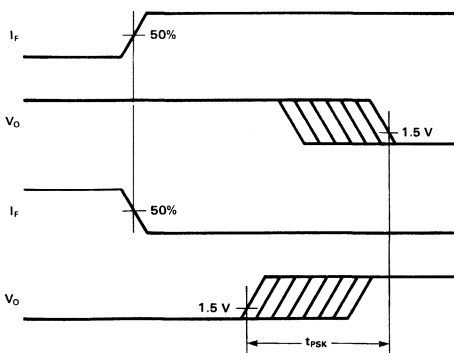

Figure 11. Illustration of Propagation Delay Skew —  $t_{PSK}$ .
- The typical data shown is indicative of what can be expected using the application circuit in Figure 11.
ature). As illustrated in Figure 11, if the inputs of a group of optocouplers are switched either ON or OFF at the same time,  $t_{PSK}$  is the difference between the shortest propagation delay, either  $t_{PLH}$  or  $t_{PHL}$ , and the longest propagation delay, either  $t_{PLH}$  or  $t_{PHL}$ .
A recommended LED drive circuit is shown in Figure 11. This circuit utilizes several techniques to minimize the total pulse-width distortion at the output of the optocoupler. By using two inverting TTL gates connected in series, the inherent pulse-width distortion of each gate cancels the distortion of the other gate. For best results, the two series-connected gates should be from the same package.
The circuit in Figure 11 also uses techniques known as prebias and peaking to enhance the performance of the optocoupler LED. Prebias is a small forward voltage applied to the LED when the LED is off. This small prebias voltage partially charges the junction capacitance of the LED, allowing the LED to turn on more quickly. The speed of the LED is further increased by applying momentary current peaks to the LED during the turn-on and turn-off transistions of the drive current. These peak currents help